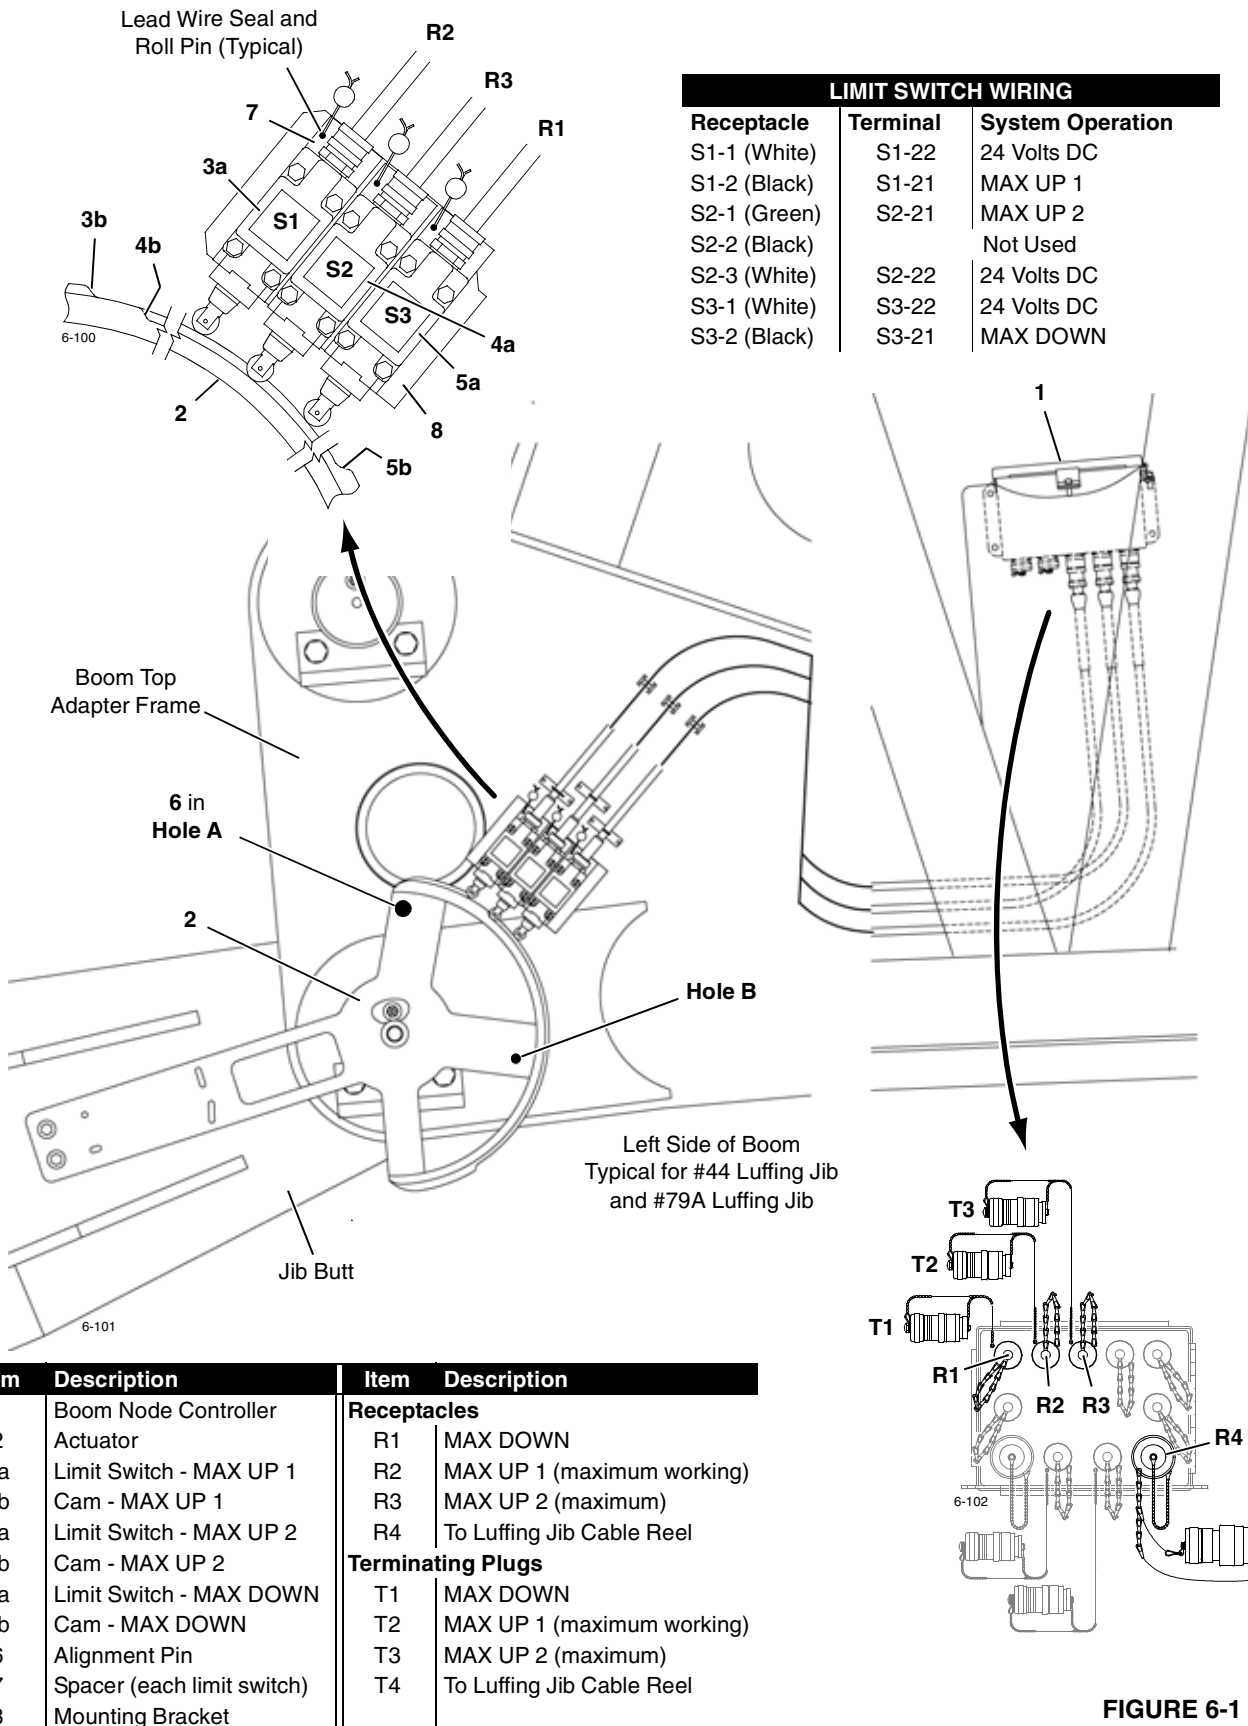

FIGURE 6-1
The luffing jib attachment is equipped with three limit switches (Figure 6-1) which automatically stop the luffing hoist and apply its brake when the luffing jib is raised or lowered to the following angles:
See Figure 6-1 for following procedure.
See Figure 6-1 for following procedures.
1. Securely fasten actuator (2) to jib butt with screws and lock washers provided.
2. Once limit switches are properly adjusted, drill and seal limit switch spacers (7, Figure 6-1) to mounting bracket (8) with roll pins and lead wire seals.